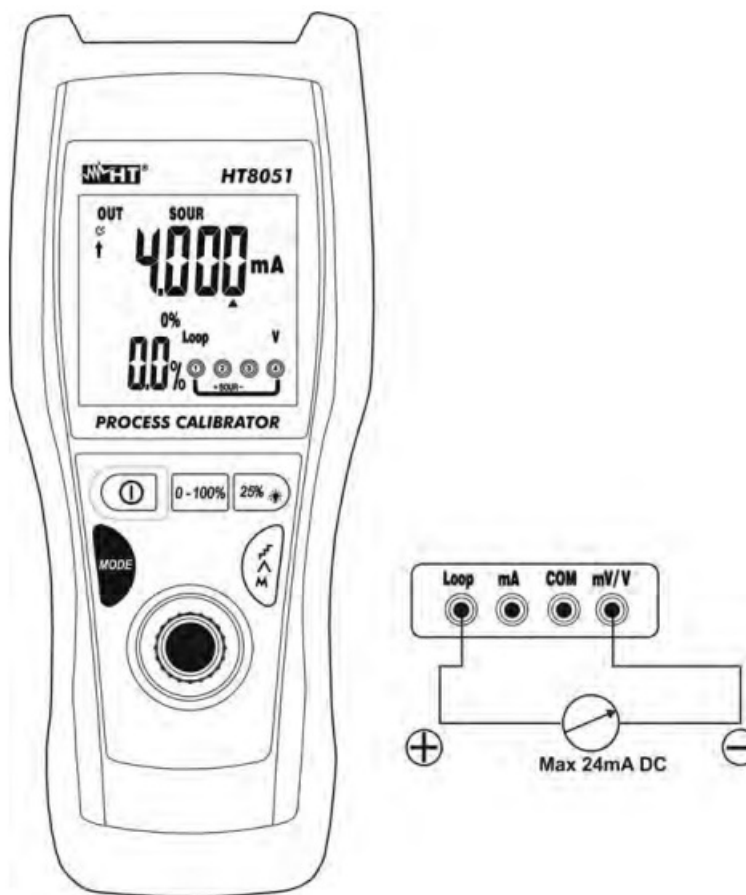

Fig. 6: DC current generation
5. Position the green lead and the black lead respectively in the points with positive and negative potential of the external device which must be supplied (see Fig. 6)
6. To generate a negative current value, turn the measuring leads in the opposite direction with respect to the connection in Fig. 6